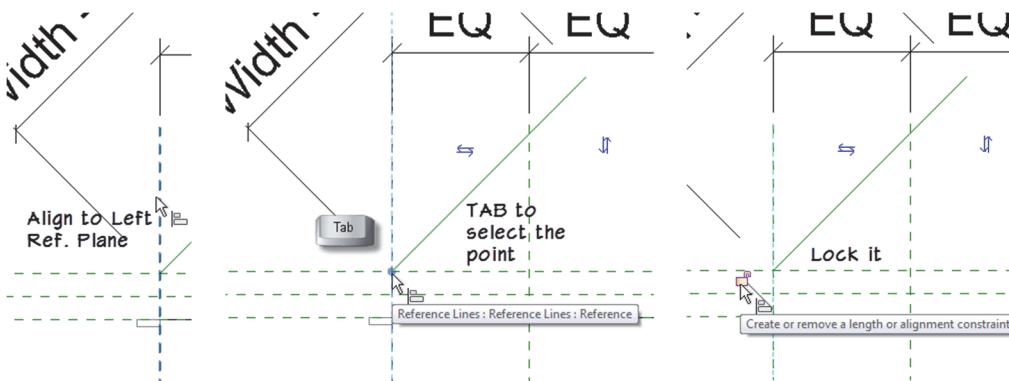

FIGURE 4.16
4. Use the Align tool and the TAB key technique to align and lock the end of the reference line to the Ref Plane: Left (see Figure 4.16).